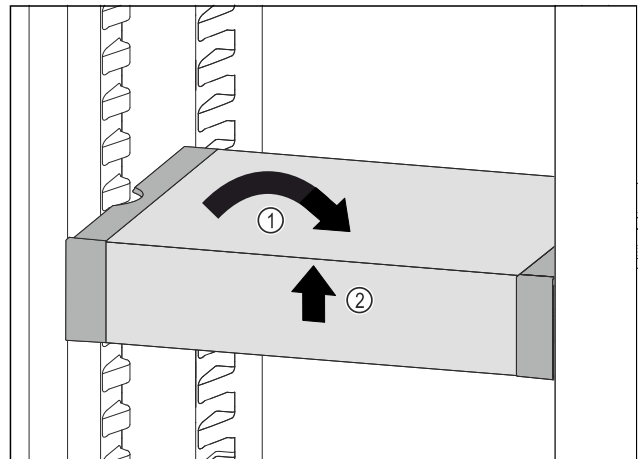

Fig. 95
- Set VarioSafe straight. Fig. 95 (1)
- Lift VarioSafe at the front. Fig. 95 (2)